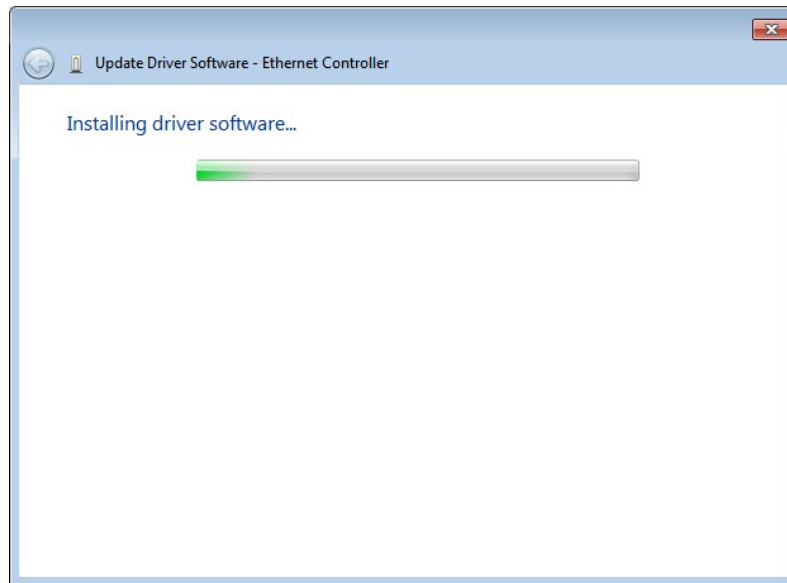

Figure 6-18: LAN Driver Installation
Step 11: Driver Installation is performed as shown in **Figure 6-18**.